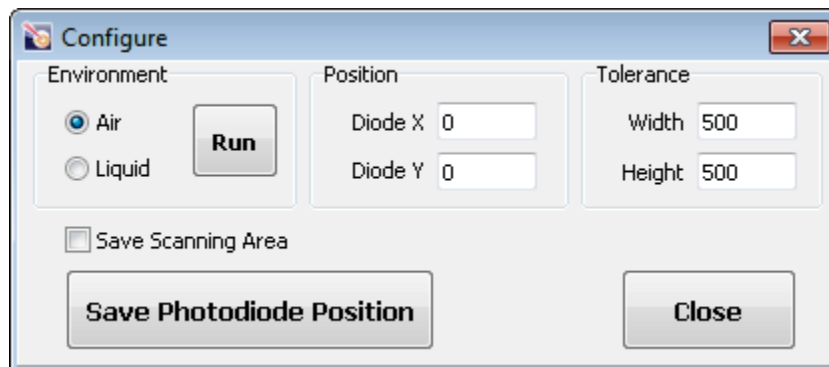

Fig. 6-38. **Configure** window
- a) Open the **Configure** window (Fig. 6-38) by clicking the  button.